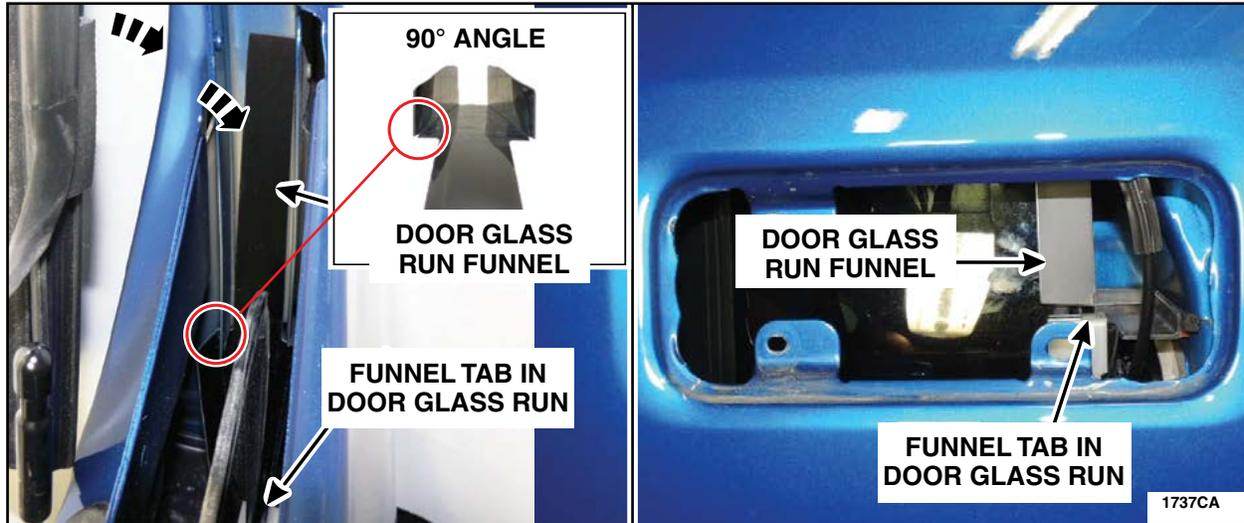

FIGURE 28
9. Install the door glass run funnel (132mm funnel wings), ensuring the lower tab is situated in the door glass run and the funnel sides sit at a 90° angle above the door glass run. See Figure 28.